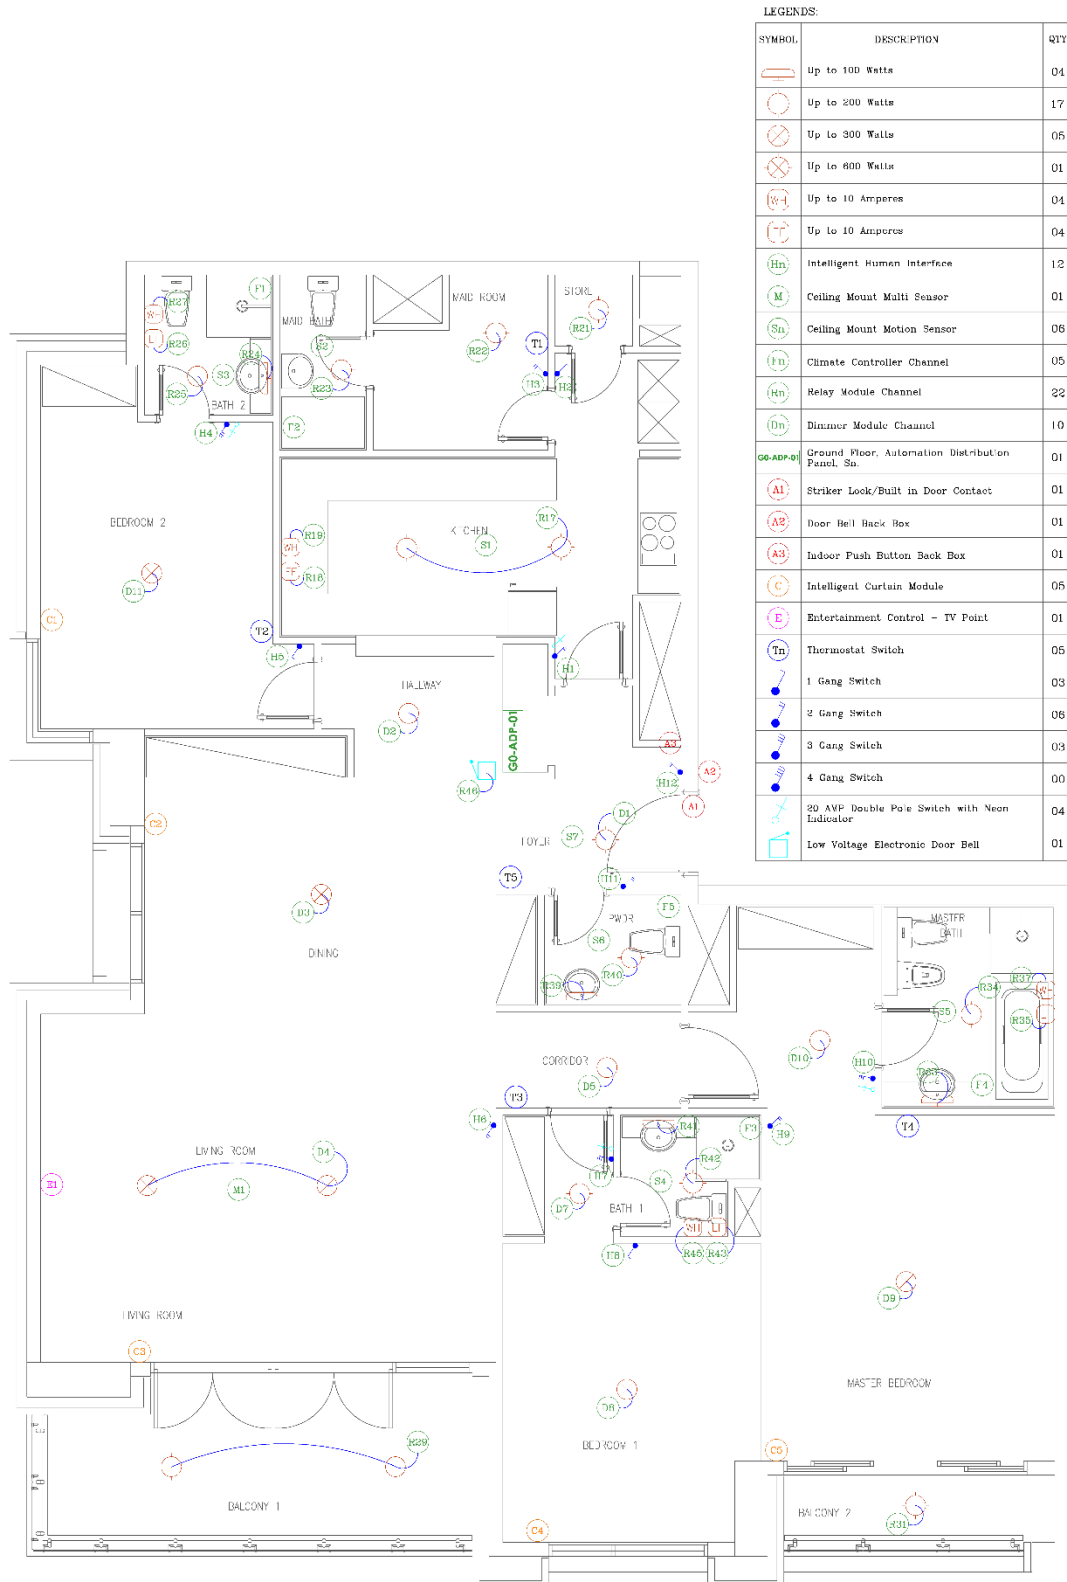

Figure 1.1.2: Apartment's Smart Home System Layout
- It's the responsibility of consultant/contractor of the project to submit the drawings of the smart building automation system layout, bus cable layout and the schematic diagram for each apartment type as shown in Figure 1.1.2, 1.1.3 & Figure 1.1.4 respectively or Figure 1.2.1, 1.2.2 & 1.2.3 for Smart Home Basic System. The application for building approval should be submitted along with the drawings. Refer to Annex 2.1 for application form. For any amendments or changes, the consultant is responsible to resubmit modified drawings to UTT indicating all the changes for re-approval prior starting of work.
- All the wires should be labeled and terminated at the ADP according to the approved drawings as shown in Figures 1.1.2, 1.1.3 & 1.1.4. The labeling should be as follows:
- The details & rating of each load (for example: chandelier, 500watt) should be mentioned clearly in the apartment's smart home layout as shown in Figure 1.1.2.
- A smart home keypad should be provided at the entry of each room, bathroom, kitchen & corridor inside the home as shown in Figure 1.1.2.
- The dimension of the keypad's faceplate is 86 x 86 mm (HW).
- The bus cable, supplied by UTT, should go out from the bottom center portion of the ADP in order to connect the back boxes of the smart home keypads, thermostats, curtains, multi-sensors, and the entertainment (E) outlet. The cable should come back
- The location of each thermostat & its labeling should be indicated on the smart home system layout, bus cable layout and the schematic diagram as in Figures 1.1.2, 1.1.3 & 1.1.4 respectively.
- The location of each curtain & its labeling should be indicated on the smart home system layout and bus cable layout in Figures 1.1.2 & 1.1.3 respectively.
- The location of each sensor & its labeling should be indicated on the smart home system layout and bus cable layout as in Figures 1.1.2 & 1.1.3 respectively. According to the number of Multi-sensors to be installed, it should be labeled as M1, M2 and M3...etc.
- The location of each device & its labeling should be indicated on the smart home system layout and bus cable layout as in Figures 1.1.2 & 1.1.3 respectively.